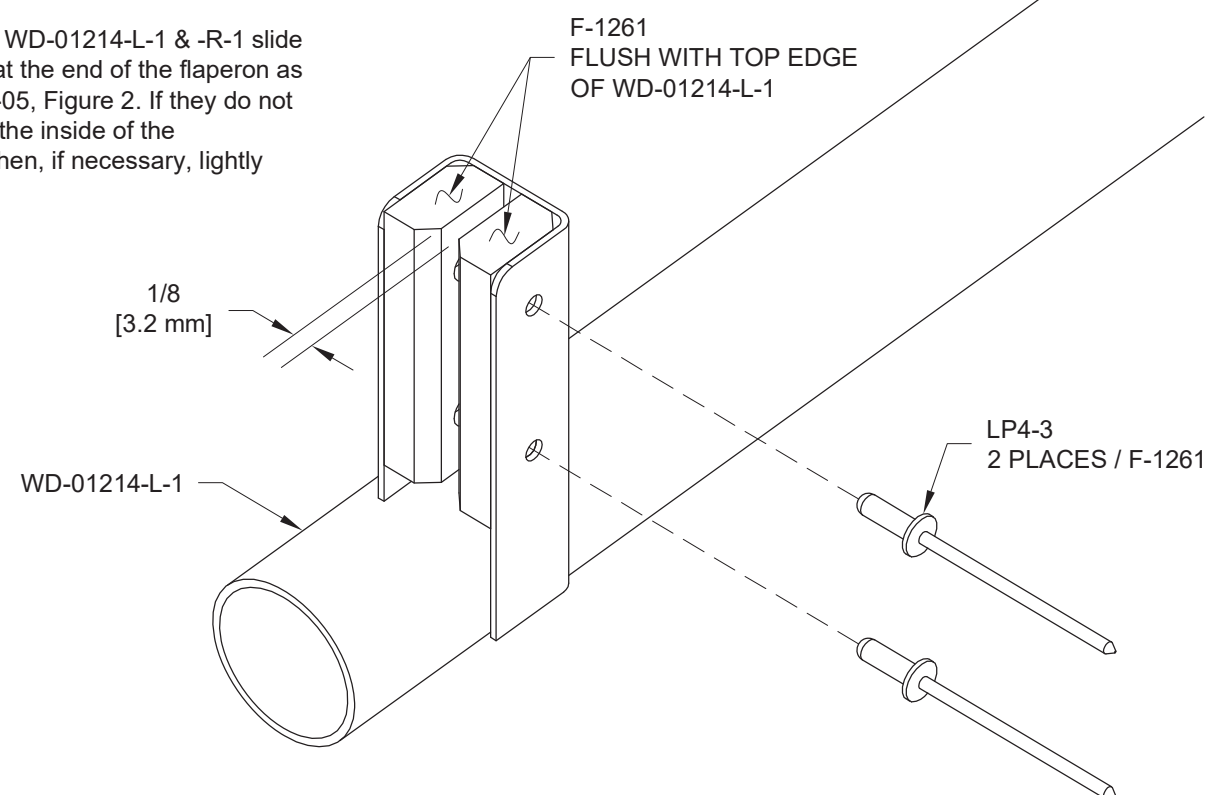

FIGURE 2: ATTACHING THE F-1261 SPACERS
Step 2: Position the F-1261s as shown in Figure 2, then match-drill #30 the two holes in both sides of the WD-01214-L-1 & -R-1 into the F-1261s.
Step 4: Scuff the mating surfaces, then epoxy the F-1261s to the WD-01214-L-1 & -R-1. **DO NOT** use too much epoxy. Use a scrap piece of aluminum (or equivalent) to maintain the gap between the spacers called out in Figure 2. Before the epoxy sets, install the rivets. Allow the epoxy to fully cure.
Step 5: Ensure that the WD-01214-L-1 & -R-1 slide freely onto the A-1211 at the end of the flaperon as shown on Page 38iS/U-05, Figure 2. If they do not slide freely, first deburr the inside of the WD-01214-L-1 & -R-1 then, if necessary, lightly sand the A-1211.